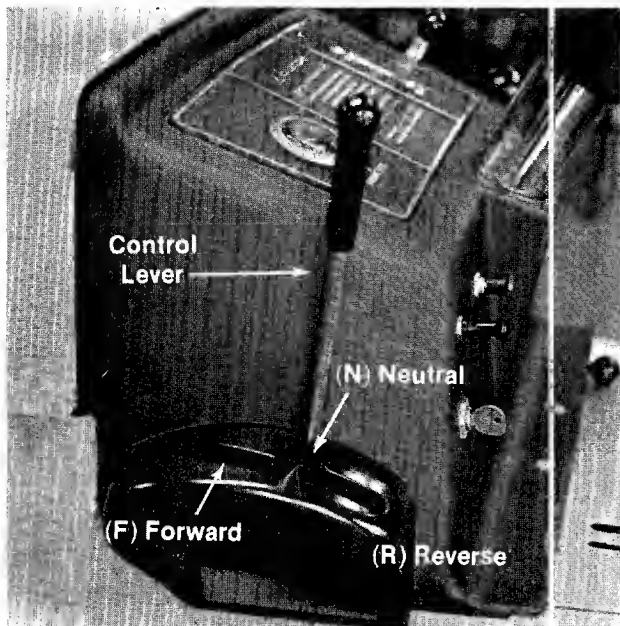

FIGURE 11.
the tractor forward. Moving the control lever backwards (R) reverses the tractor. See figure 11.
If the hydrostatic control lever does not return to the neutral notch on the hydrostatic control lever guide when the brake pedal is depressed (see figure 11), make the following adjustment: